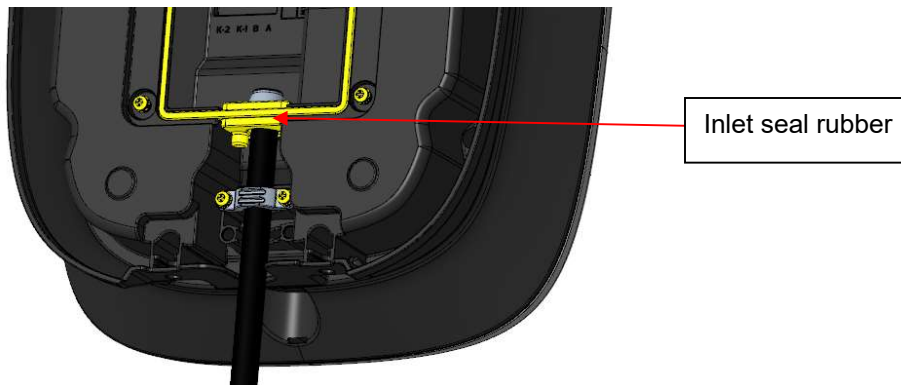

Figure A-8 Location of inlet seal rubber
- Recommended cable specifications of 11kW charger: 2.5mm^2 (brown L1, black L2, grey L3, blue N, green yellow PE), outside diameter 13 mm-17 mm, Inlet seal rubber plug, as shown in Figure A-8.